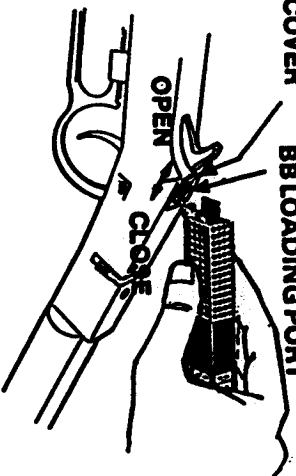

FIG. 6
3. A BB Loading Port (small sliding door) is on top of the Receiver in front of the hammer. (Fig. 6) Slide back.